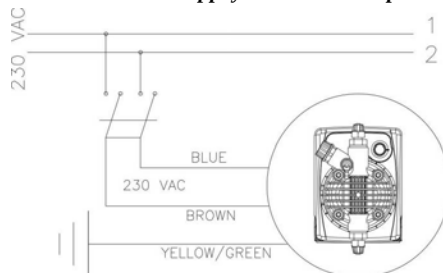

Fig. 4
b. - Carefully observe the regulations in force in the various countries as regards electrical installations (Fig.4). When the supply cable is devoid of a plug, the equipment should be connected to the supply mains by means of a single-pole circuit breaker having a minimum distance of 3 mm between the contacts. Before accessing any of the electrical parts, make sure that all the supply circuits are open.